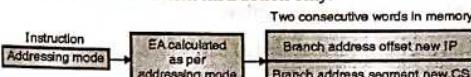

Fig. 4.9.4 : Intersegment Indirect
- Refer Fig. 4.9.4 for graphical presentation.